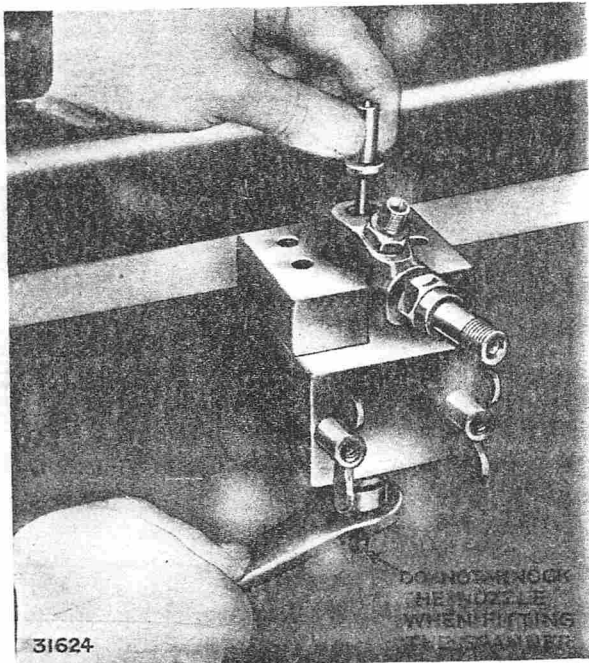

FIG. 58. TIGHTENING THE LOCK-NUT
5. Tighten the lock-nut slowly and carefully with the fingers, at the same time using the 3 B.A. rod to bounce the needle valve rapidly on the nozzle seat. This is to ensure perfect centralisation of the nozzle and needle, without which the injector will not operate correctly. Finally, tighten the lock-nut with the ring spanner (Fig. 58), taking great care not to knock the nozzle when fitting the spanner.